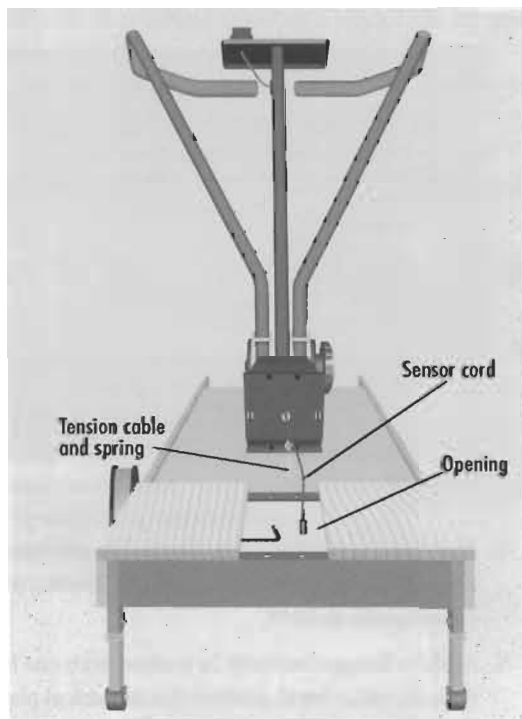

Figure 5
- Position the upper-body exerciser over the front of the treadmill base (Figure 5). The workout computer faceplate and the treadmill-tension control knob at the top of the upper-body exerciser should face the rear of the treadmill deck.
- Insert the sensor cord and tension cable through the opening between the wood panels in the treadmill base (Figure 5).